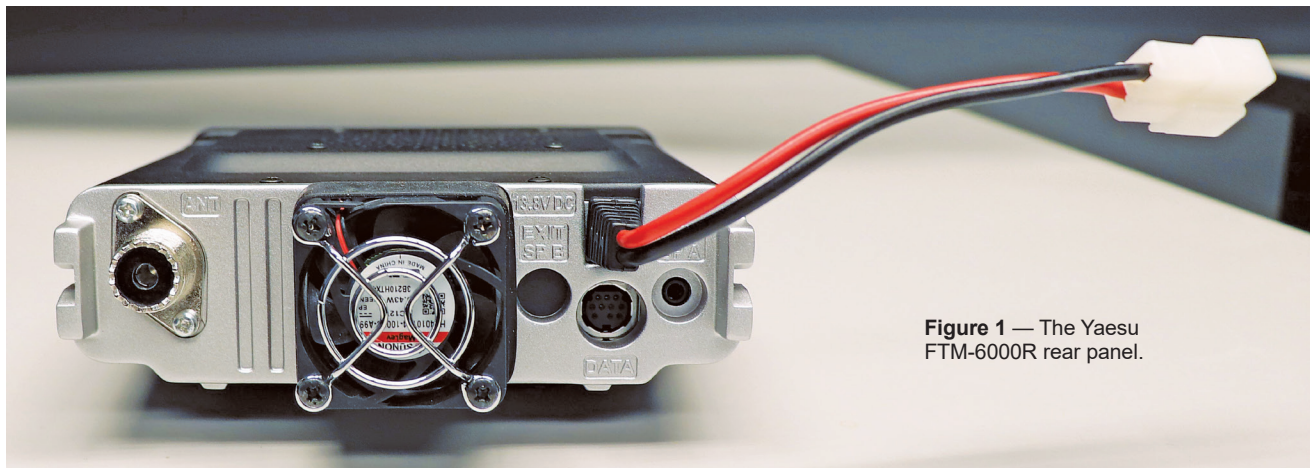

Figure 1 — The Yaesu FTM-6000R rear panel.
The Yaesu FTM-6000R is a compact, dual-band, one band at a time, analog (FM) mobile transceiver. The maximum RF output power is 50 W on both the 2-meter and 70-centimeter bands, but it also has a significant extended range on receive, from 108 MHz to 999.995 MHz (with cellular blocked; see Table 1). The control head is detachable and can be connected to the main unit remotely using the included 10-foot cable. Yaesu also includes a control head mounting bracket, a radio main unit mounting bracket, a USB cable, a dc power cable, and a DTMF microphone (SSM-85D). The radio can support Bluetooth wireless with the optional BU-4 unit. There are 1,100 programmable memory channels. Programmable scanning functions include the VFO scan, memory scan, and Primary Memory Group (PMG) scan. A 3 W audio power speaker provides good, loud audio output. The unit features a Funnel Air-Convection Conductor (Wind Tunnel) that gathers cool air from the front and side intakes and directs it to the radio final amplifier, and out of the unit through the fan located on the rear panel (see Figure 1).